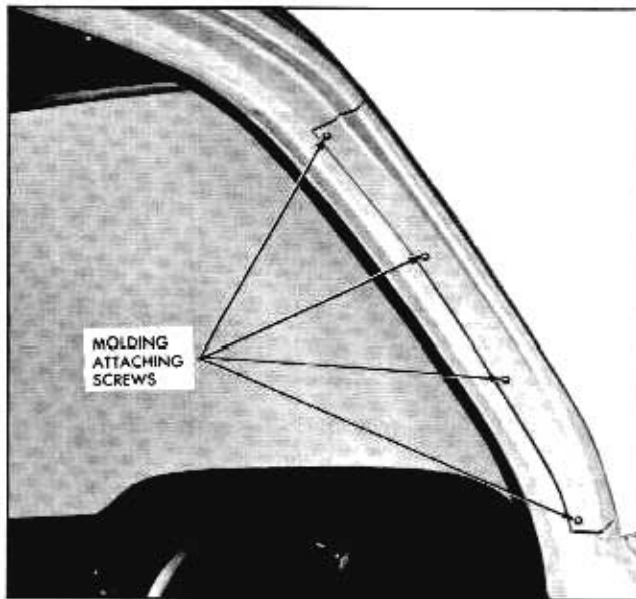

Fig. 10A-15 Windshield Pillar Drip Molding
1. Remove screws securing drip molding (Fig. 10A-15) and remove molding.
2. To install, apply medium-bodied sealer to screw attaching holes as indicated by No. 1 and to drip molding as indicated by No. 2 in Fig. 10A-16 and reverse removal procedure.